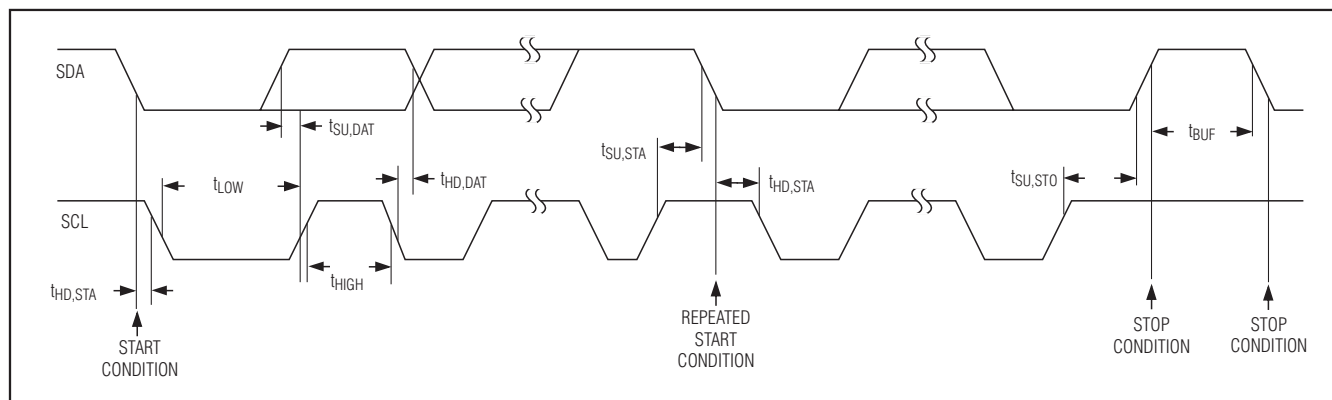
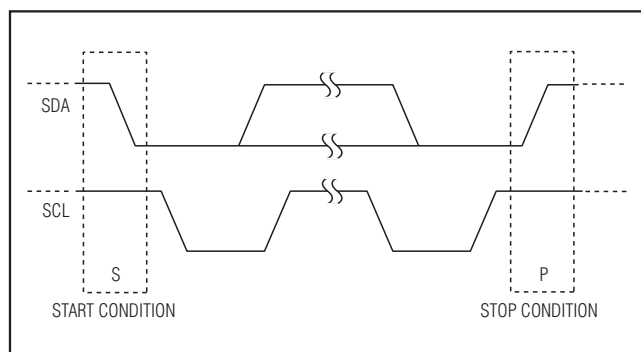

Figure 5. I2C Interface Timing Diagram
Figure 6. I2C START and STOP Conditions
The interface uses a serial-data line (SDA) and a serial-clock line (SCL) to achieve bidirectional communication between master(s) and slave(s). A master (typically a microcontroller) initiates all data transfers to and from the MAX8831, and generates the SCL clock that synchronizes the data transfer (Figure 5). The MAX8831 SDA line operates as both an input and an open-drain output. A pullup resistor, typically 4.7k $\Omega$ , is required on SDA. The MAX8831 SCL line operates only as an input. A pullup resistor, typically 4.7k $\Omega$ , is required on SCL if there are multiple masters on the 2-wire interface, or if the master in a single-master system has an open-drain
SCL output. Each transmission consists of a START condition (Figure 6) sent by a master, followed by the MAX8831 7-bit slave address plus a R/W bit, a register address byte, 1 or more data bytes, and finally a STOP condition (Figures 5 and 6).
Both SCL and SDA remain high when the interface is not busy. The master signals the beginning of a transmission with a START (S) condition by transitioning SDA from high to low while SCL is high. When the master has finished communicating with the slave, it issues a STOP (P) condition by transitioning the SDA from low to high while SCL is high. The bus is then free for another transmission (Figure 6).